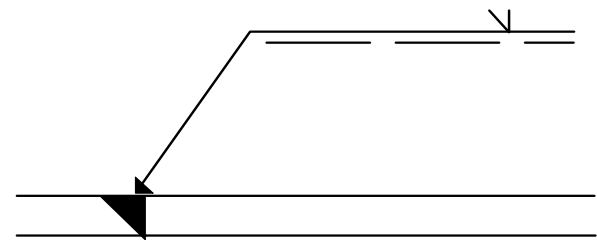

Fig. 10.1
- Indicate the welding position with the tip of the arrow. This can be placed at any desired angle. When welding a joint where one side is to be processed first, the arrow points in the direction of the surface that has to be processed first. (Fig. 10.1)